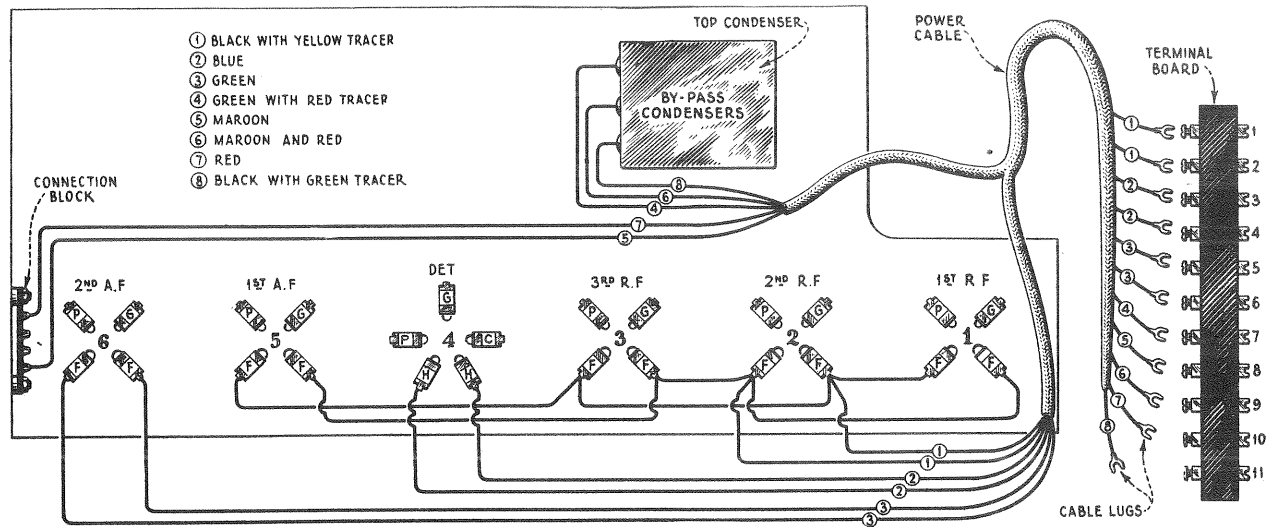

Figure 25—Color scheme of power cable connections.
3. Remove old cable from chassis and replace with new cable. Solder the connections of the new cable as indicated on tags attached to connection points. The correct connections for the power cable are shown in Figure 25.
(11) REPLACING FILTER CONDENSER ASSEMBLY